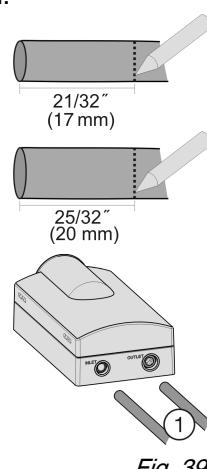

Fig. 39
- ▶ Insert the hoses Fig. 39 (1) into the water filter module as far as they will go (i.e. to the mark you made) past the point of resistance.